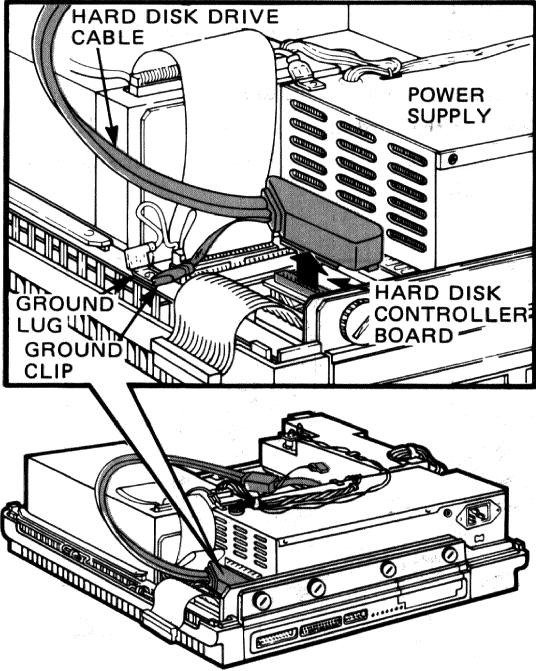

Figure 5-21 Hard Disk Drive Cable Removal from Controller
4. Unplug the hard disk drive cable from the hard disk controller board (Figure 5-21). Unplug its ground clip.